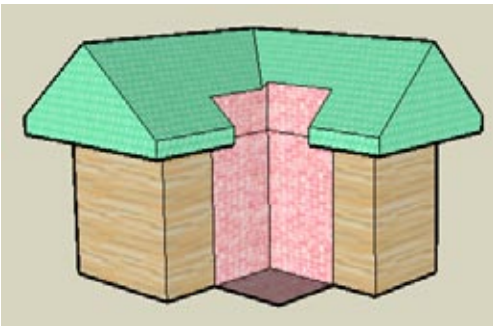

Figure 3-5
6. Erase the extra roof edges to make space for the chimney (Figure 3-5).